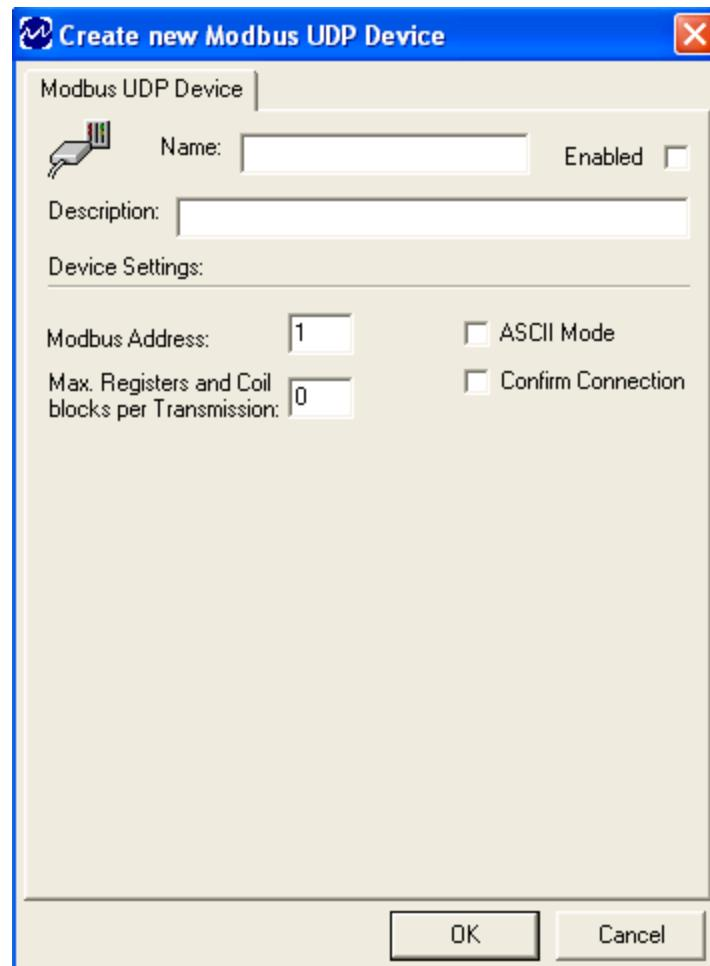

Figure 15 - Create New Modbus UDP Device Window
The **Create New** window (Figure 15) displays the settings available for a connection to a Modbus UDP Device.
5. The **Create New** window (Figure 15) appears.